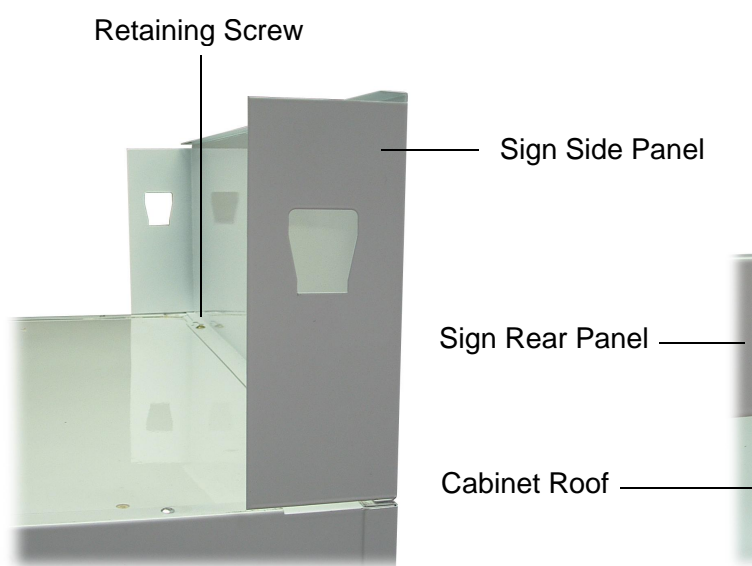

Figure 2: Sign Side Panel
2. Loosen the four retaining screws on the roof of the cabinet and fit each sign side panel over the screws. Slide the sign side panels forward, flush with the front of the cabinet and tighten all four retaining screws (see Figure 2 below).